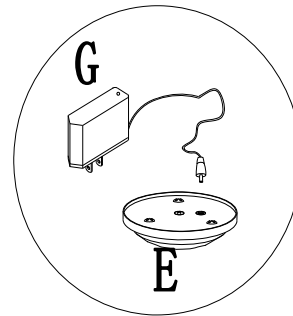

Fig.3-2
Charging the battery case (E) via the charger(G), as shown in Fig.3-2